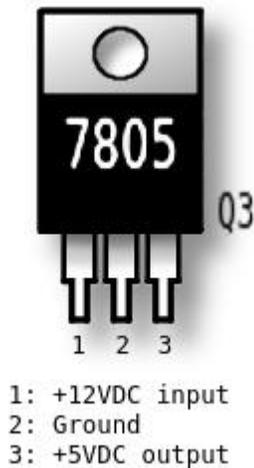

Fig. 39 – Check for +5V across pins 2 and 3 of 7805 (Q3).
- ✓ Check the 7805 (at Q3) with a volt meter and verify it's +5V output: red probe to pin 3, black probe to pin 2 GND (See Fig. 39).